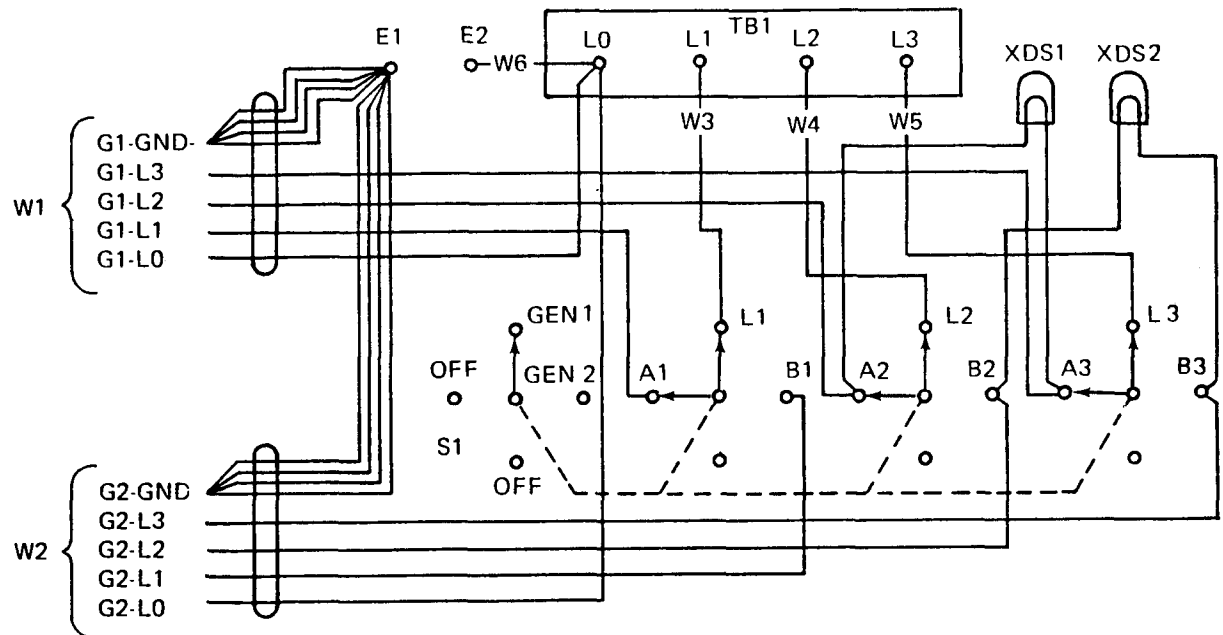

Figure 4-8. Five-Wire Switch Box Schematic Diagram.
- (1) Set multimeter for continuity testing.
- (2) Set switch box rotary switch to GEN 1 position and locate power cable assembly associated with that switch position.
- (3) Test white wire by touching one probe of multimeter to load terminal L0 on generator set and touching other probe to load terminal L0 on switch box. Multimeter must indicate continuity between these points.
- (4) Repeat step (3) for black wire (between L1 on generator set and A1 on switch), red wire (between L2 on generator set and A2 on switch) and blue wire (between L3 on generator set and A3 on switch).
- (5) On power plants supplied with the 5-wire configuration switch box (figure 4-8), the green (ground) wire must also be tested. Disconnect wire from frame ground stud under generator set control panel. Test for continuity between free end of wire and ground stud E1 on switch box.
- (6) If multimeter does not indicate continuity exists on each wire in the cable, replace power cable assembly (paragraph 4-25, d.).
- (7) To test power cable assembly associated with GEN 2 switch position, perform steps (2) through (6) substituting switch terminals B1, B2 and B3 for terminals A1, A2 and A3, as test points. Generator set load terminal designations and wire color-coding is identical for both power cables.